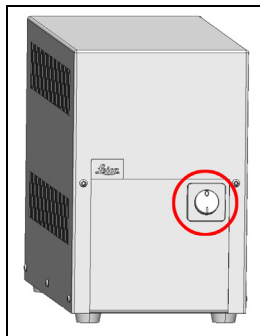
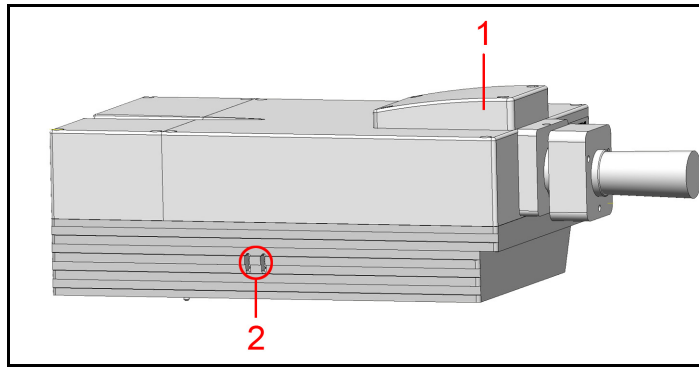

Figure 78: HyD RLD supply unit
Figure 79: HyD reflected light detectors (HyD RLDs)
If you are using HyD RLDs you have to switch them on before LAS AF starts. Otherwise, the LAS AF software cannot initialize the detectors. The HyD RLDs consist of a supply unit (see **Figure 78**) and a detector module (see **Figure 79**).
- The power switch for switching on and off the power supply and the cooling for the detector module is located on the front side of the supply unit (see **Figure 78**).
- For image acquisition, activate the detectors in LAS AF. The yellow status LED (see **Figure 79, item 2**) flashes if photons are being detected.
Status LED color (see Figure 79, item 2)	Meaning
- The filter cube cover (see **Figure 79, item 2**) ensures the housing's EMC stability and prevents light from entering or exiting.